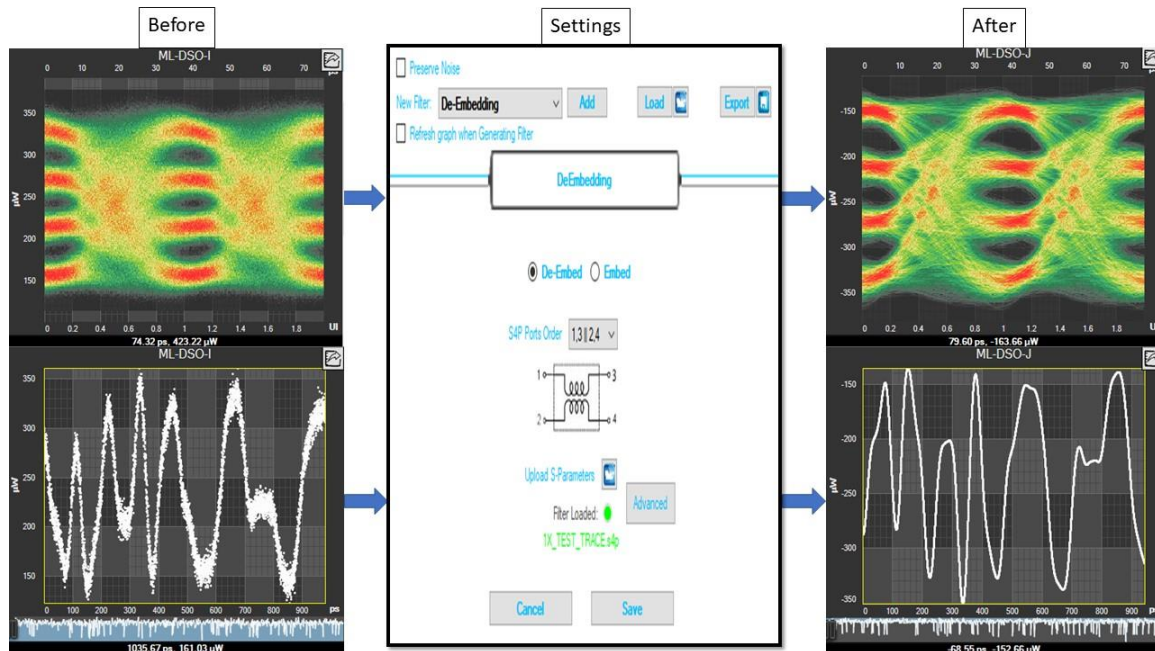

Figure 28: De-Embedding Filter
- **Pattern mode:** this mode works only if you are locked to a pattern. It shows the train of bits. An example is shown in Figure 28.